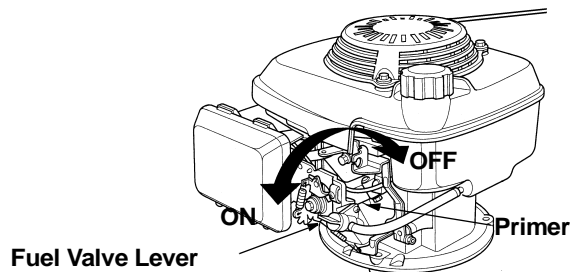

Figure 15
- If the engine is equipped with a fuel valve lever, move it to the ON position. See Figure 15.